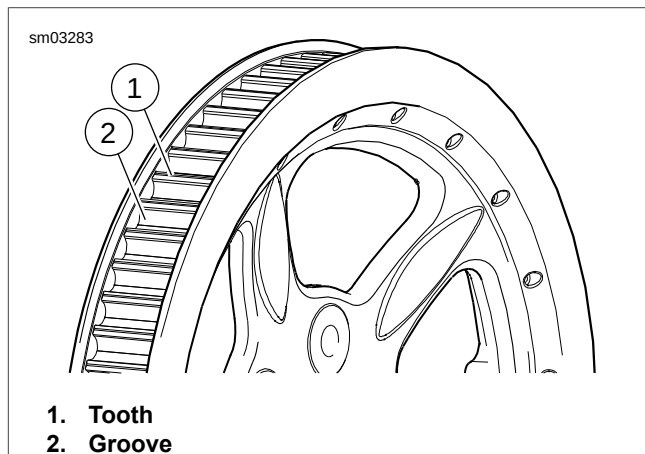

Figure 1-28. Rear Sprocket
1. See Figure 1-28. Inspect each tooth (1) of rear sprocket for:
2. To check if chrome plating has worn off, drag a scribe or sharp knife point across the bottom of a groove (2) (between two teeth) with medium pressure.